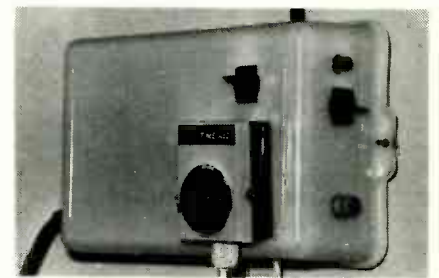

FIG. 7—LAMP TIMER connected to 9-volt power supply through a special timer socket turns system on and off as desired.
For pushbutton-free operation, a lamp timer (see Fig. 7) can be used to turn the system on in the morning and off in the evening. Here are some other useful options:
**FIG. 7—HOW PARTS ARE POSITIONED ON the digital board. Follow text for wiring sequence for easier assembly. Don't forget the jumpers that are on the foil side of the board.**
First, refer to Fig. 7 for parts placement; start construction when you are reasonably familiar with that drawing. Position the board as shown with the large foil block in the top left-hand corner. Now you are all set to begin construction. Start with the wire jumpers on the component side. Note that there are a total of seven. Begin by installing the two in the IC10 and IC11 spots, noting that they run between the IC's and ground. It is important to install them now, as IC sockets will be installed over them shortly. Then move to the center of the board and install the two long jumpers as shown. They link the pin-11 terminals on IC13, IC14 and IC15, and are important. Next, go over to the left edge of the board and install the three jumpers next to IC's 17, 18 and 19. That takes care of the component side jumpers.